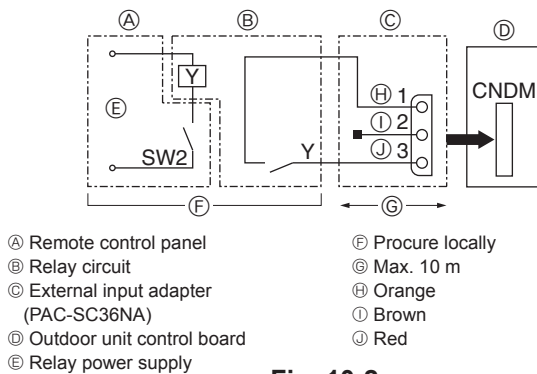

Fig. 10-2
- ① Complete the circuit as shown when using the external input adapter (PAC-SC36NA). (Option)
10.2. Demand function (on-site modification) (Fig. 10-2)